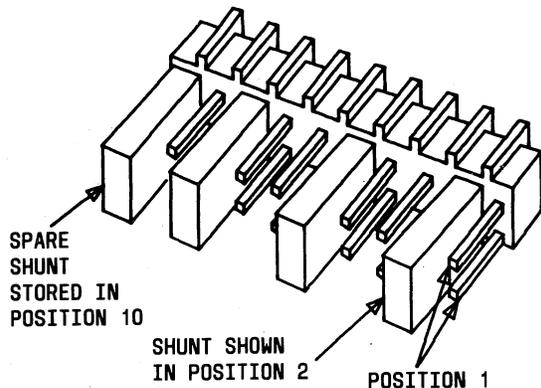

Fig. 3—♦Detail of Header for Installing Options♦
2.07 Figure 3 shows header H1 which has ten positions with the tenth position used as a spare. To install options, the shunts are slipped over the two pins which make up one position. Four shunts are provided with the header. One shunt is the spare and is stored in position 10.